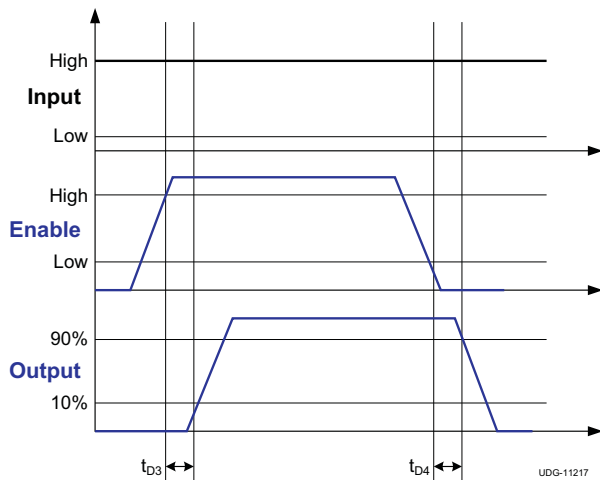
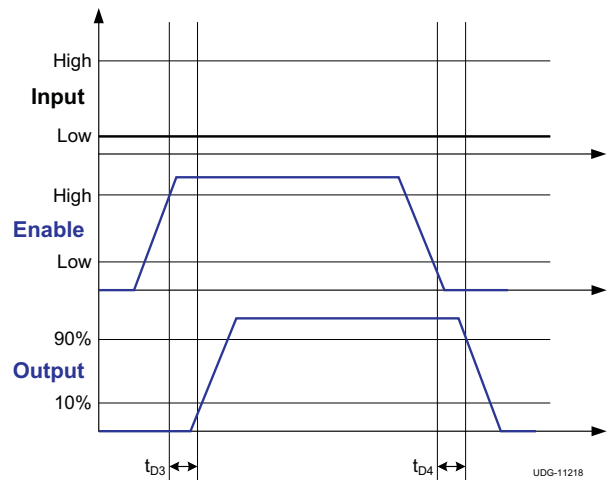
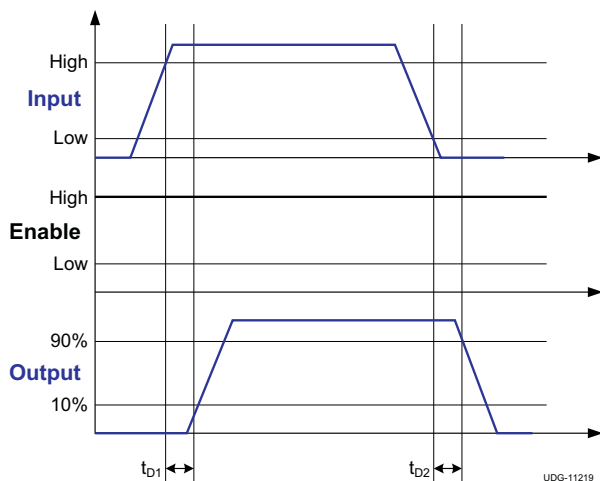
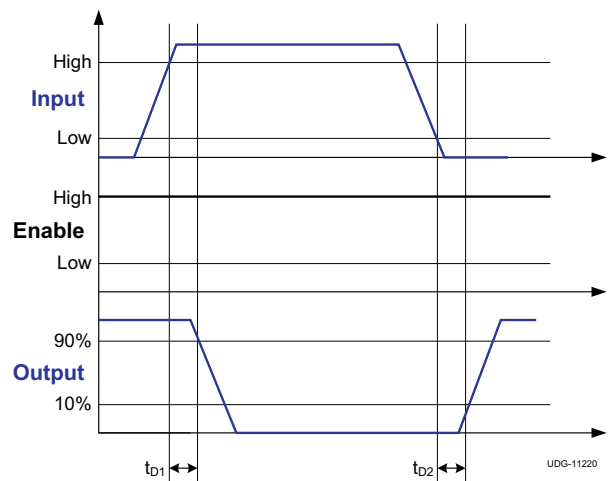

Figure 1. Enable Function (For Non-Inverting Input Driver Operation)
Figure 2. Enable Function (For Inverting Input Driver Operation)
Figure 3. Non-Inverting Input Driver Operation
Figure 4. Inverting Input Driver Operation
(1) See timing diagrams in Figure 1, Figure 2, Figure 3, and Figure 4